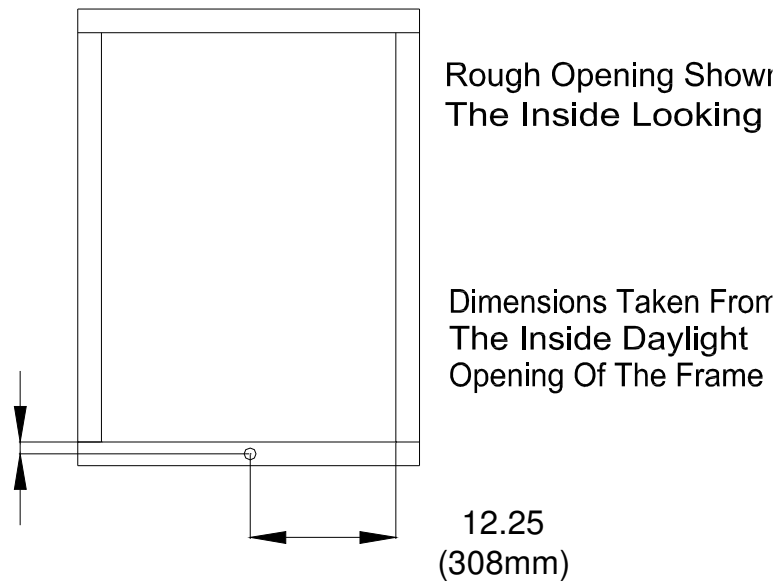

Figure 4
9. For Semi-Automatic installations, Drill a 1" hole through the wall as illustrated in Figure 4. (The dimensions shown are from the inside of the building.)
10. For Fully-Automatic, Drill a 1 1/2" hole through the wall as illustrated in Figure 4. (The dimensions shown are from the inside of the building.)